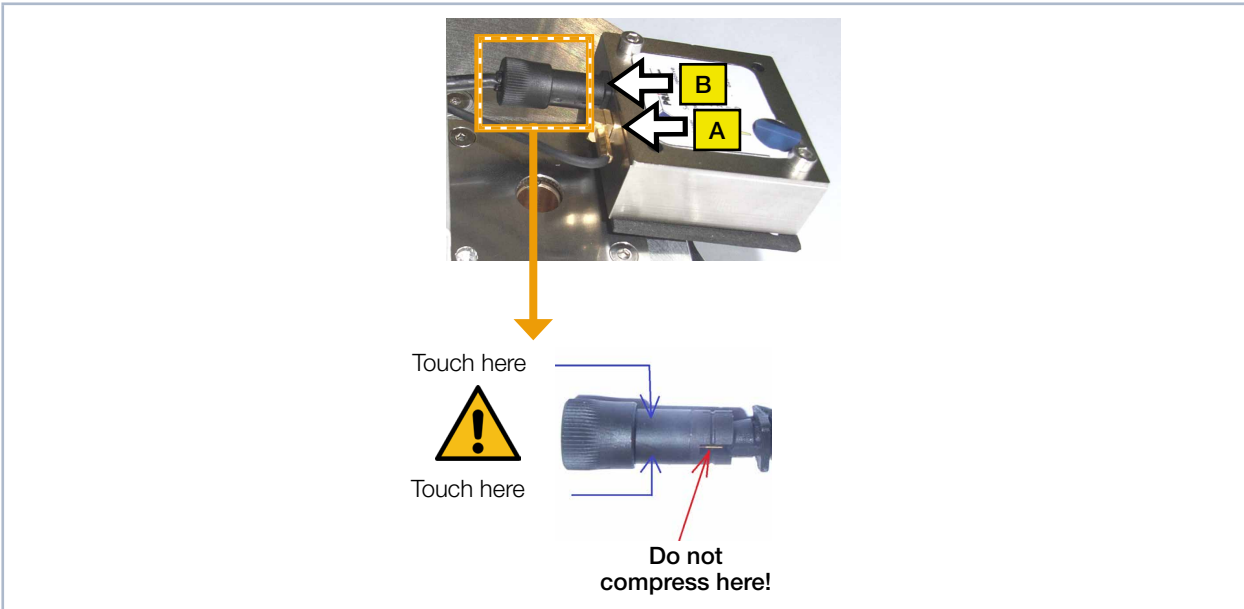

Fig. 16.4: Releasing the plugs from the detector
3. First loosen the golden angle plug (A), then the black plug (B) (see Fig. 16.4 on page 66).